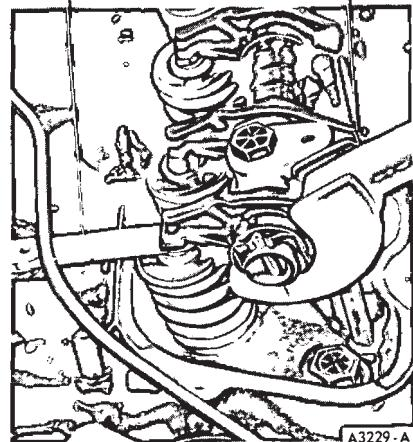

FIG. 10—Checking Valve Clearance
2. With the crankshaft in the positions designated in Steps 3 and 4, position the hydraulic lifter compressor tool on the rocker arm. Slowly apply pressure to bleed down the hydraulic lifter until the plunger is completely bottomed (Fig. 10). Hold the lifter in this position and check the available clearance between the rocker arm and the valve stem tip with a feeler gauge.
Upon replacement of a valve push rod, valve rocker arm shaft assembly or hydraulic valve lifter, the engine should not be cranked or rotated until the hydraulic lifters have had an opportunity to leak down to their normal operating position. The leak down rate can be accelerated by using the tool shown in Fig. 10 on the valve rocker arm and applying pressure in a direction to collapse the lifter.